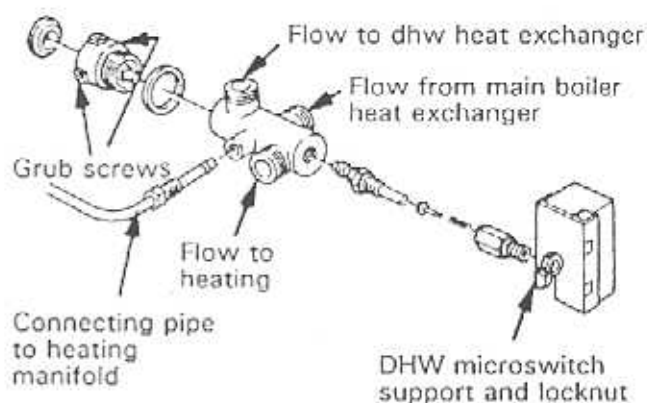

Fig.38
- 8.17.6 Remove retaining nut (fig. 38) and remove micro switch.
8.18 3-Way Diverting Valve Refer to figs.38 & 39
8.18.4 Unscrew retaining nut and remove micro switch (fig 38).